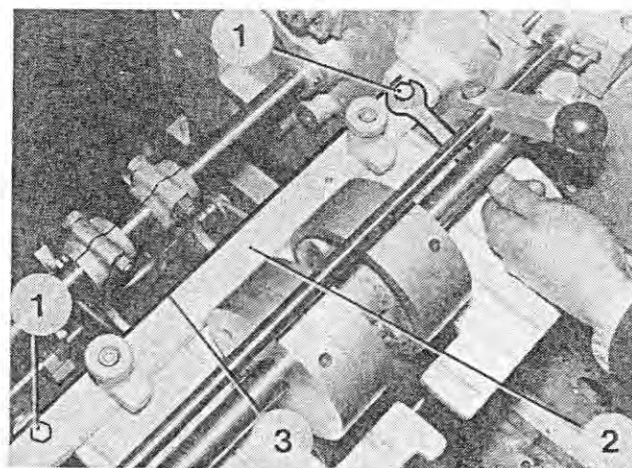

Fig. 264
4. Unscrew the locking screws (Figure 264/1) on both sides and remove the clamping sledge (Figure 264/2) and the upper cutter knife (Figure 264/3).